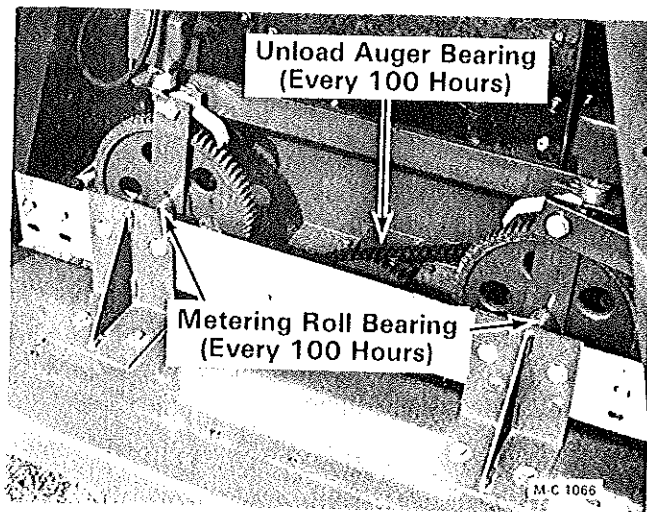

Figure 27
CAUTION: The guards were removed in Figure 27 and 28 to provide clear illustrations. Do not operate the dryer without guards in place and secure.
2. Lubricate the unloading auger front bearing and the front bearing on each grain metering roll, see Figure 27.